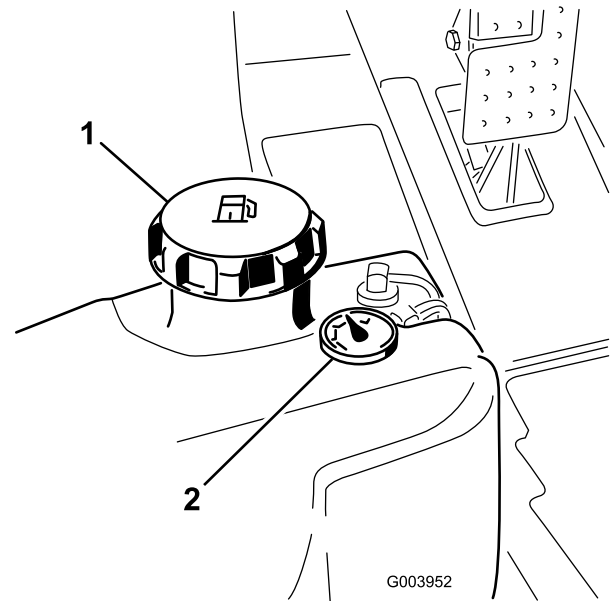

Figure 33
1. Remove the fuel tank cap (Figure 33).